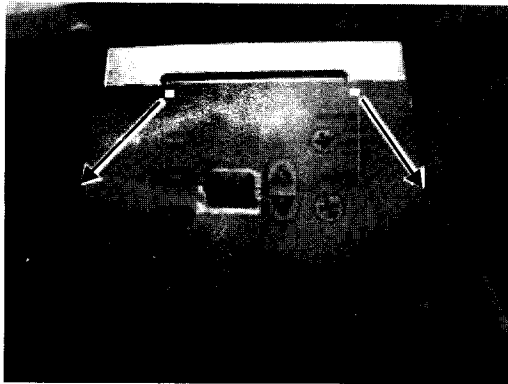

Figure 1
3. Remove the two 1/4 inch screws on each side of the touch pad and lay touch pad back, Figure 1